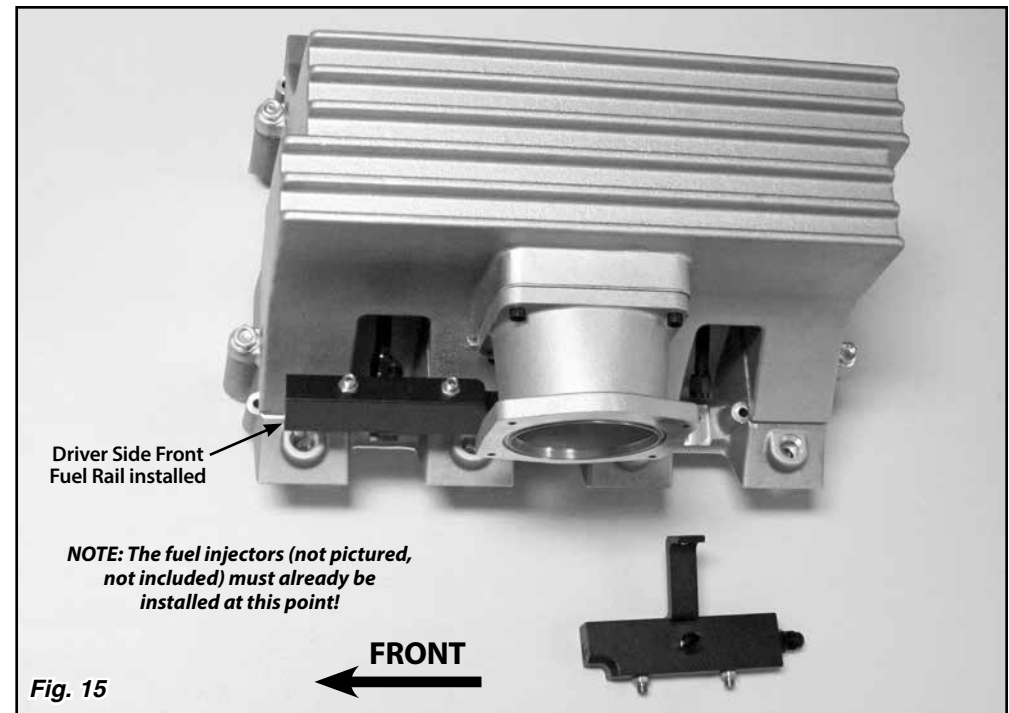

Fig. 15
Step 16: Position the injectors to properly orient the wiring plugs. Apply silicone lubricant to the bottom injector O-rings, and insert the injectors into the injector bosses in the lower manifold by applying gentle downward pressure on the fuel rail. **Fig. 15**
Step 19: Tighten the 1/4"-20 x 3/4" socket head bolts holding the fuel rail brackets in two steps. Tighten to 7 lb.-ft. for the first step, and to 12-15 lb.-ft. for the second step. Then, tighten the -4 AN fuel hard line nuts. **Figs. 15, 16, 17, and 18**